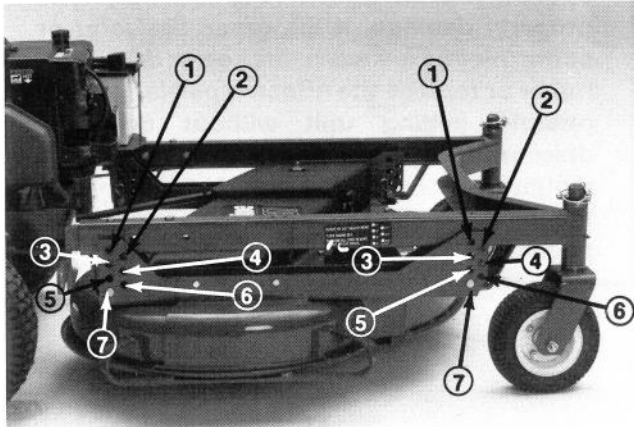

Figure 5
2. Mount cutting unit to carrier frame with four (4) clevis pins and hair pin cotters (Fig. 5).
The height-of-cut is adjustable from 1–4 inches (25–102 mm) in 1/2 in. (13mm) increments by moving four clevis pins in different holes (Fig. 5).